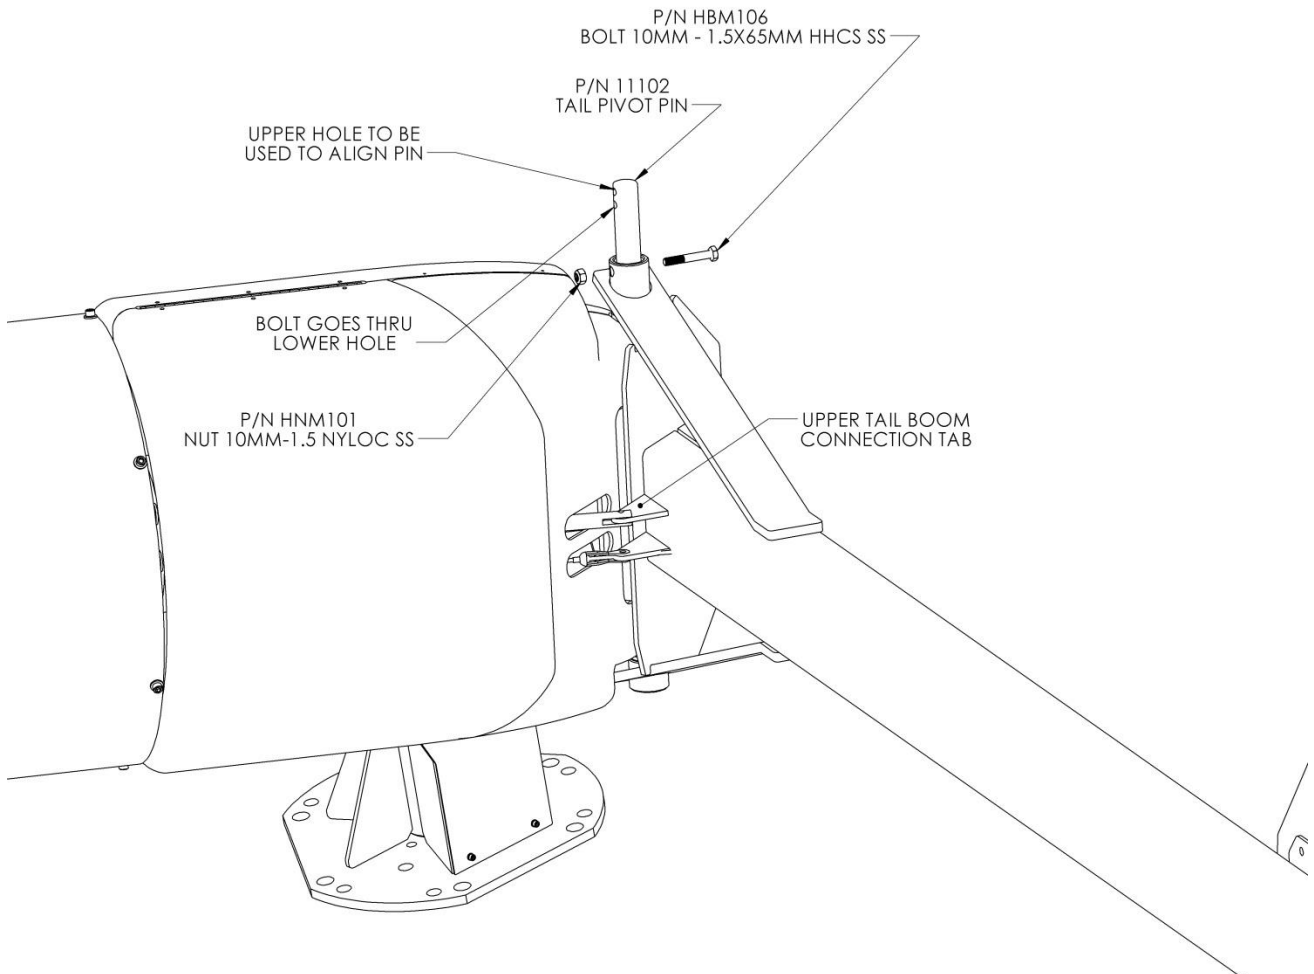

Figure 15: Excel Tail boom and Pivot Pin
3. Hold the tail boom in a position so the end with the fin is angled up $\sim 15^\circ$ and align the tail bushings with those of the powerhead, then insert the tail pivot pin as shown in **Figure 15**. The pin may need tapping through, but keep in mind that the stainless steel pin can be damaged if it is handled incorrectly. Use a block of wood or rubber mallet on the pin.